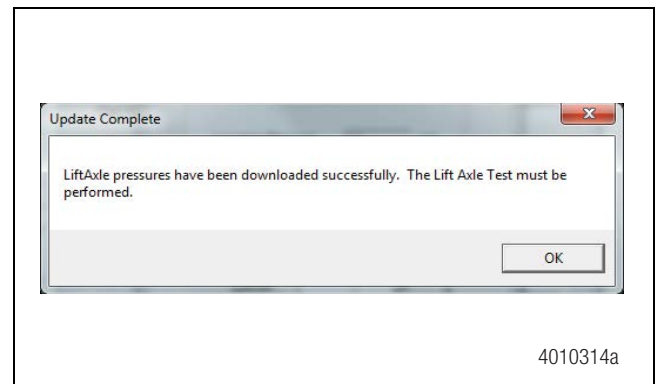

Figure 9
3. The values are validated and programmed when the **OK** button is pressed. When a confirmation message appears, press the **OK** button to continue. Figure 9.